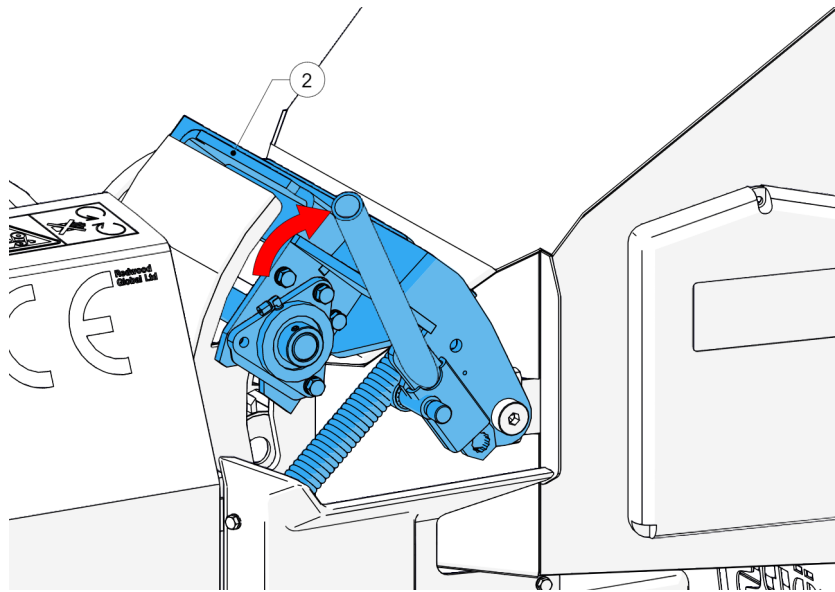

Figure 46 - Raising the top feed roller housing
12. Lift the top feed roller (2, Figure 46) to the fully open position.